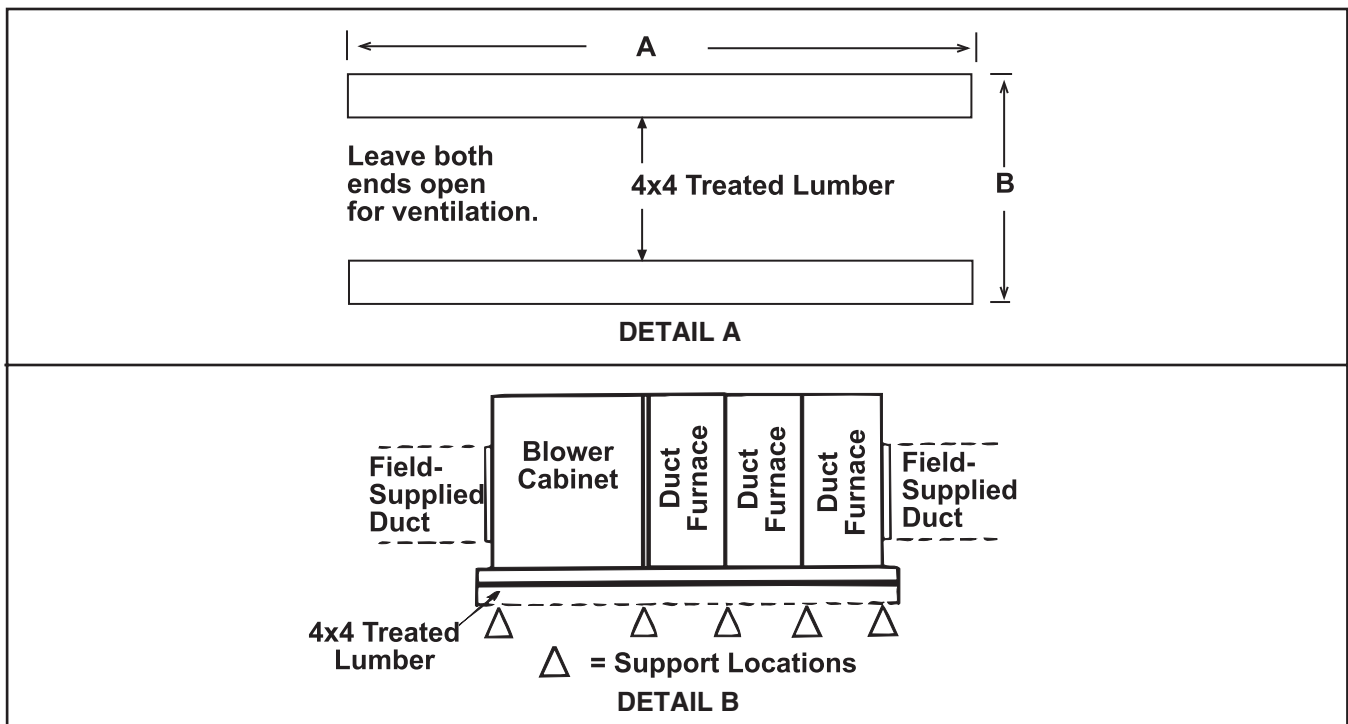

Figure 2. Field-Supplied Support Assembly (Refer to Table 6)
- The field-supplied, cross-support structure must be adequate for the weight of the system. Cross-supports should run the entire width of the system to support the rails at the recommended locations (see Figure 2, DETAIL A).
1. Cut treated 4 × 4 wooden rails for length in accordance with dimension A (see Figure 2, DETAIL A).
2. Space rails in accordance with dimension B (see Figure 2, DETAIL A) so that curb cap skirt fits over edge of boards with rails sitting inside horizontal length of curb cap. If rails are being laid directly on roof, position them as shown in Figure 2, DETAIL A).
3. If rails are not being placed directly on surface, install cross-supports underneath rails at ends of unit and at all cabinet joints (see Figure 2, DETAIL B).